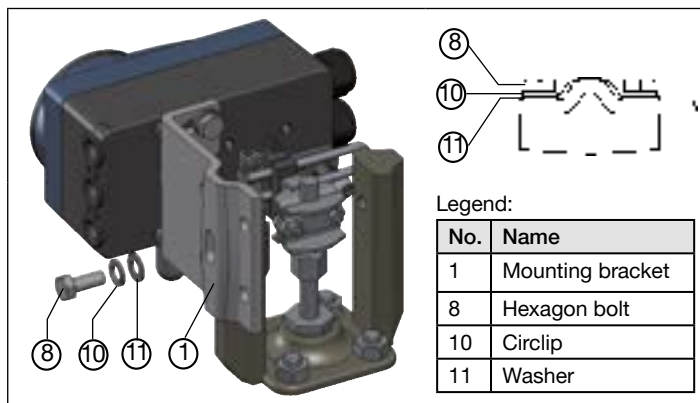

Fig. 9: Attach Type 8792/8793 with mounting bracket; for actuators with cast frame
- Attach mounting bracket to the cast frame with one or more hexagon bolts ⑧, washers ⑪ and circlips ⑩ (see "Fig. 9").